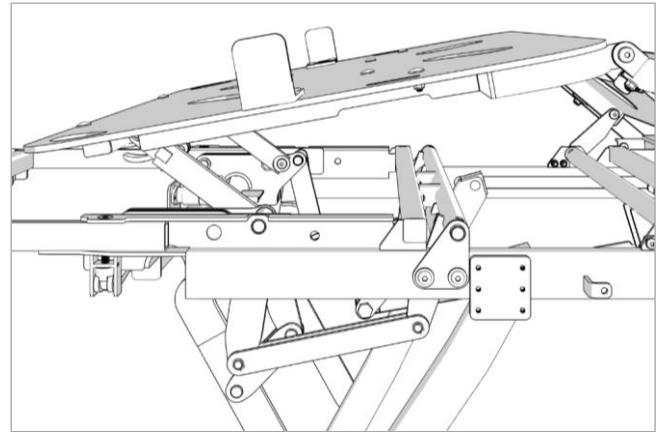

Figure 11.8
3. Raise the Legrest to its highest setting referring to section 9 as shown in Figure 11.8.